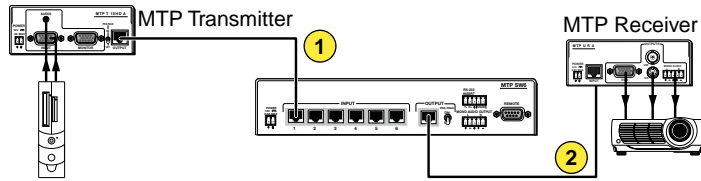

Figure 2. Transmission cables
The maximum distance is determined by the frequency and resolution of the signal that is input to the transmitter. Figure 2 and Table 1, on the next page, define the switcher input cables (①) and output cables (②) and specify the recommended maximum transmission distances on the input and output. Table 1 also defines the output Pre-Peak switch positions (item ④ on page 10) using Extron Enhanced Skew-Free A/V UTP cable or UTP CAT 5, 5e, or 6 cable, terminated with RJ-45 connectors.